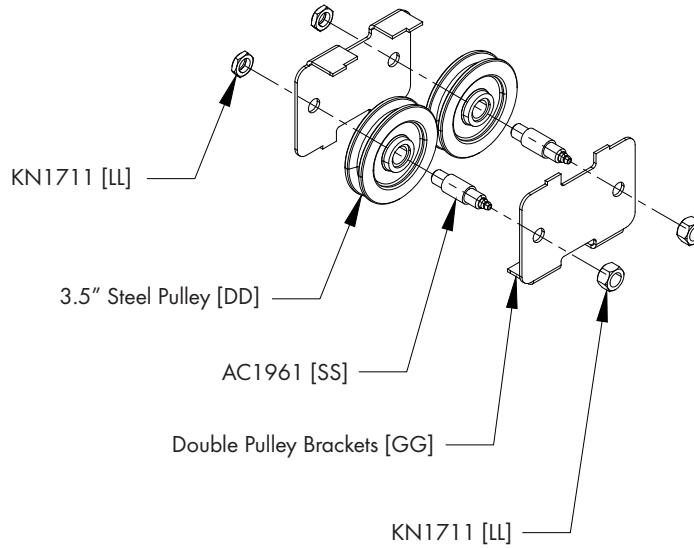

Figure 19
Fasten (2) Double Pulley Brackets [GG] together with (2) 3.5" Dia. Steel Pulleys [DD] using (2) AC1961 Spindle [SS] and (4) KN1711 Jam Nuts [LL]. See Figure 19.